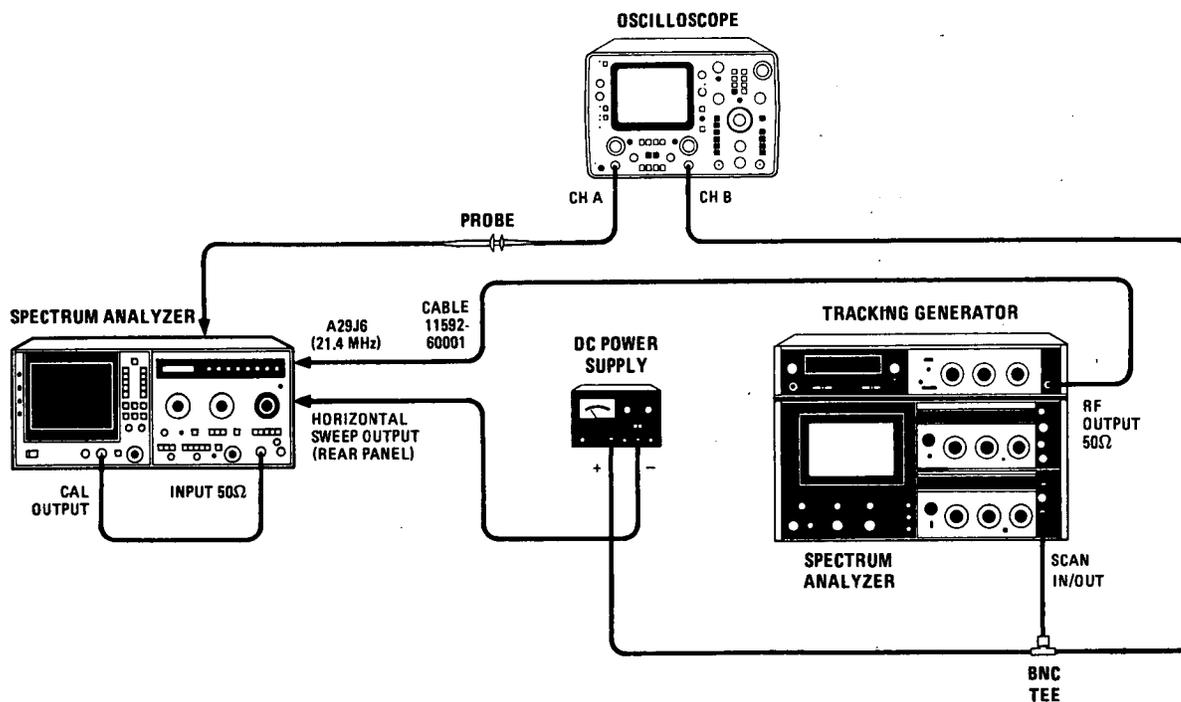

Figure 5-18. Bandwidth Filter Adjustment Test Setup
2. Reconnect power cord, set LINE switch ON, and connect equipment as shown in Figure 5-18. With normal settings (green), set spectrum analyzer controls as follows: